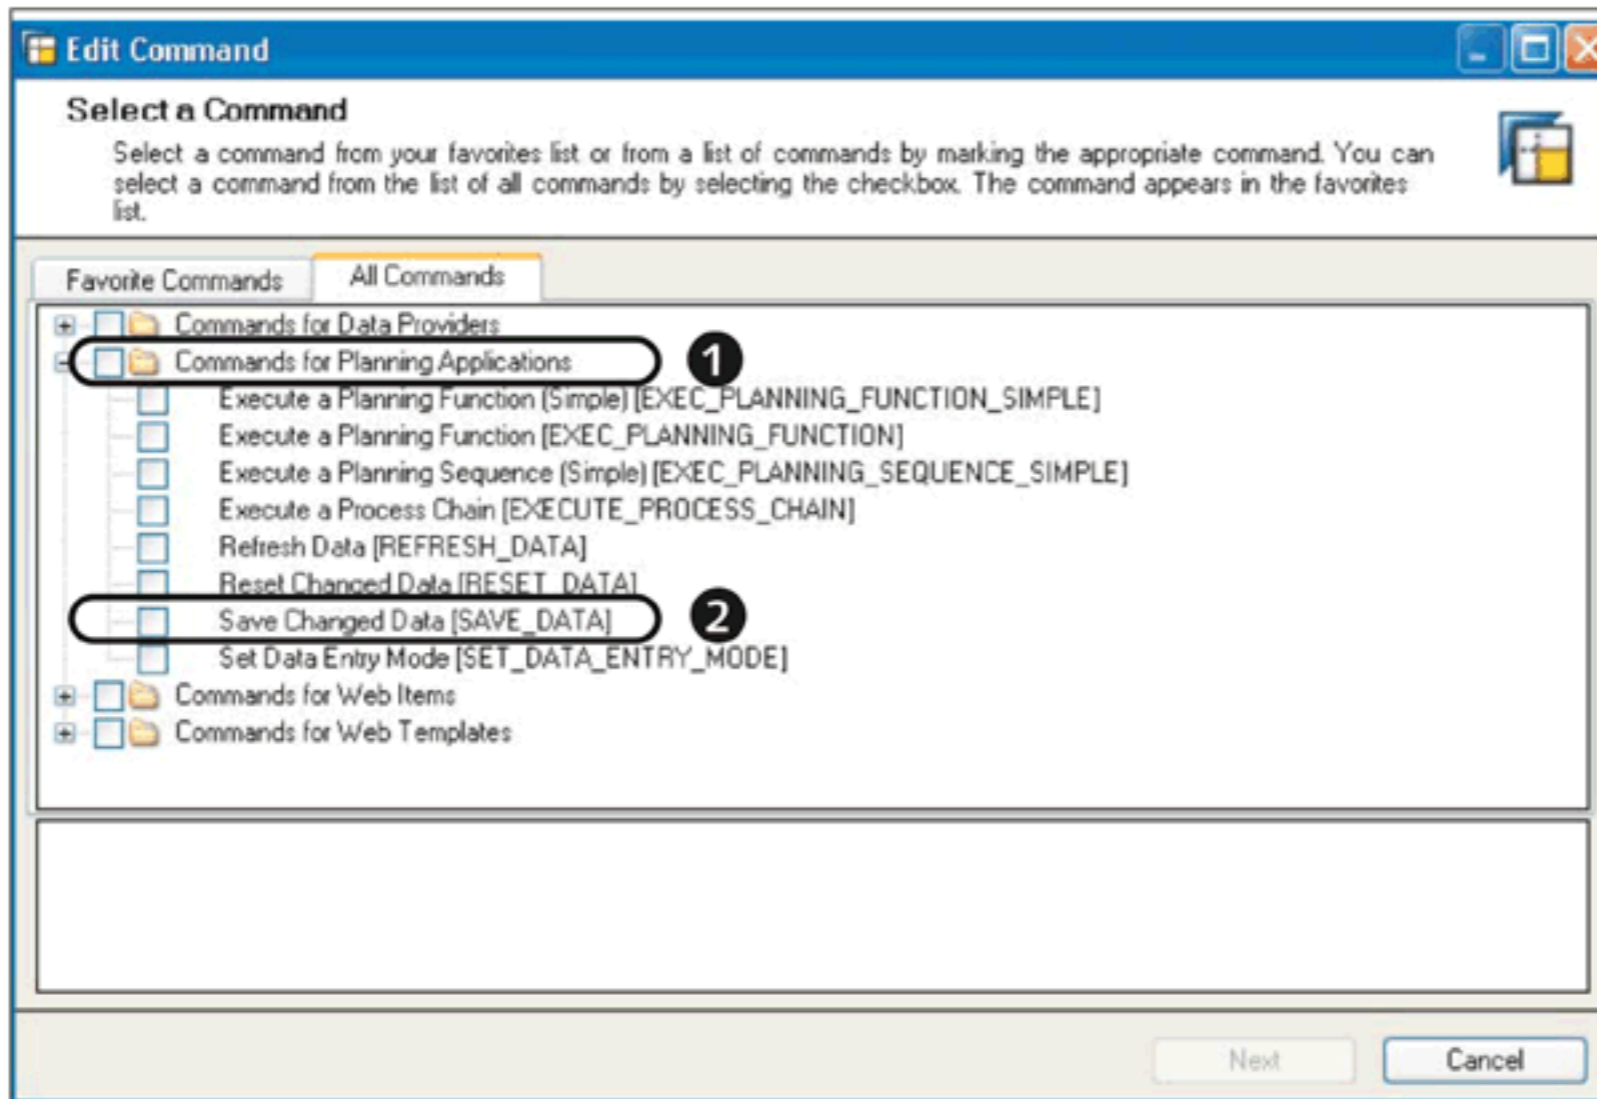

Figure 12.80 Planning Commands
You will see a list of all of the available commands in the Command Wizard under the ALL COMMANDS tab (Figure 12.80).
All of the planning-related commands are grouped under the folder titled **COMMANDS FOR PLANNING APPLICATIONS** (❶ of Figure 12.80). These commands are explained here:
For our example scenario, select the command **SAVE CHANGED DATA (SAVE_DATA)** (❷ of Figure 12.80), and then click on the **NEXT** button.